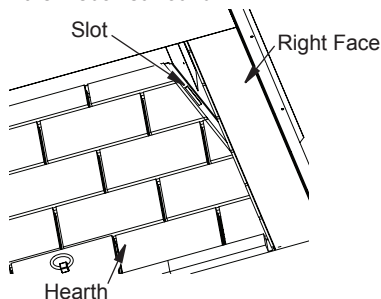

Figure 22 - Slots for Firebrick Walls
2. Install the left and right firebrick walls. There is a bracket with 2 tabs on the bottom of each firebrick wall. Angle the wall into the fireplace opening and into the slots on the side of the hearth (Figure 22), then tilt the top of the panel toward the firebox surround.